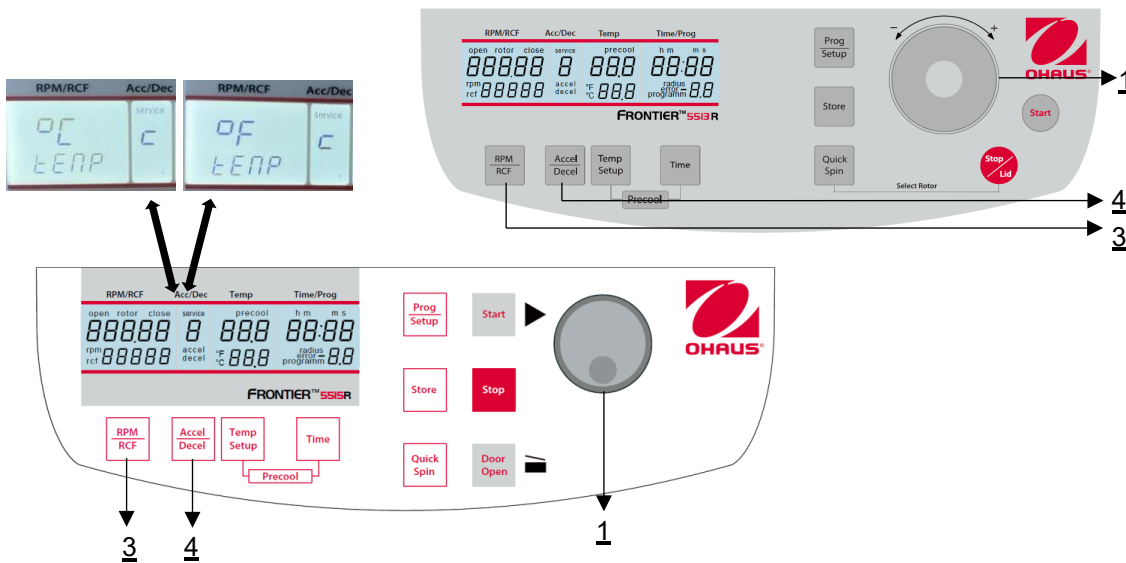

Figure 27
Proceed as described under point 4.1.1 to enter this program mode and then press the key **"Accel/Decel"** (4). In the display **"Acc/Dec"** (A-2) the word **"Service"** (M12) flashes. Now select the letter **"C"** with the adjusting knob / touch wheel (1). As a result, the words "CELSI/temp" appear in the display **"RPM | RCF"** (A-1). If you press the key **"RPM | RCF"** (3), the word **"°C"** flashes and you can change the display into Fahrenheit **"°F"** with the adjusting knob / touch wheel (1) (see Figure 27).